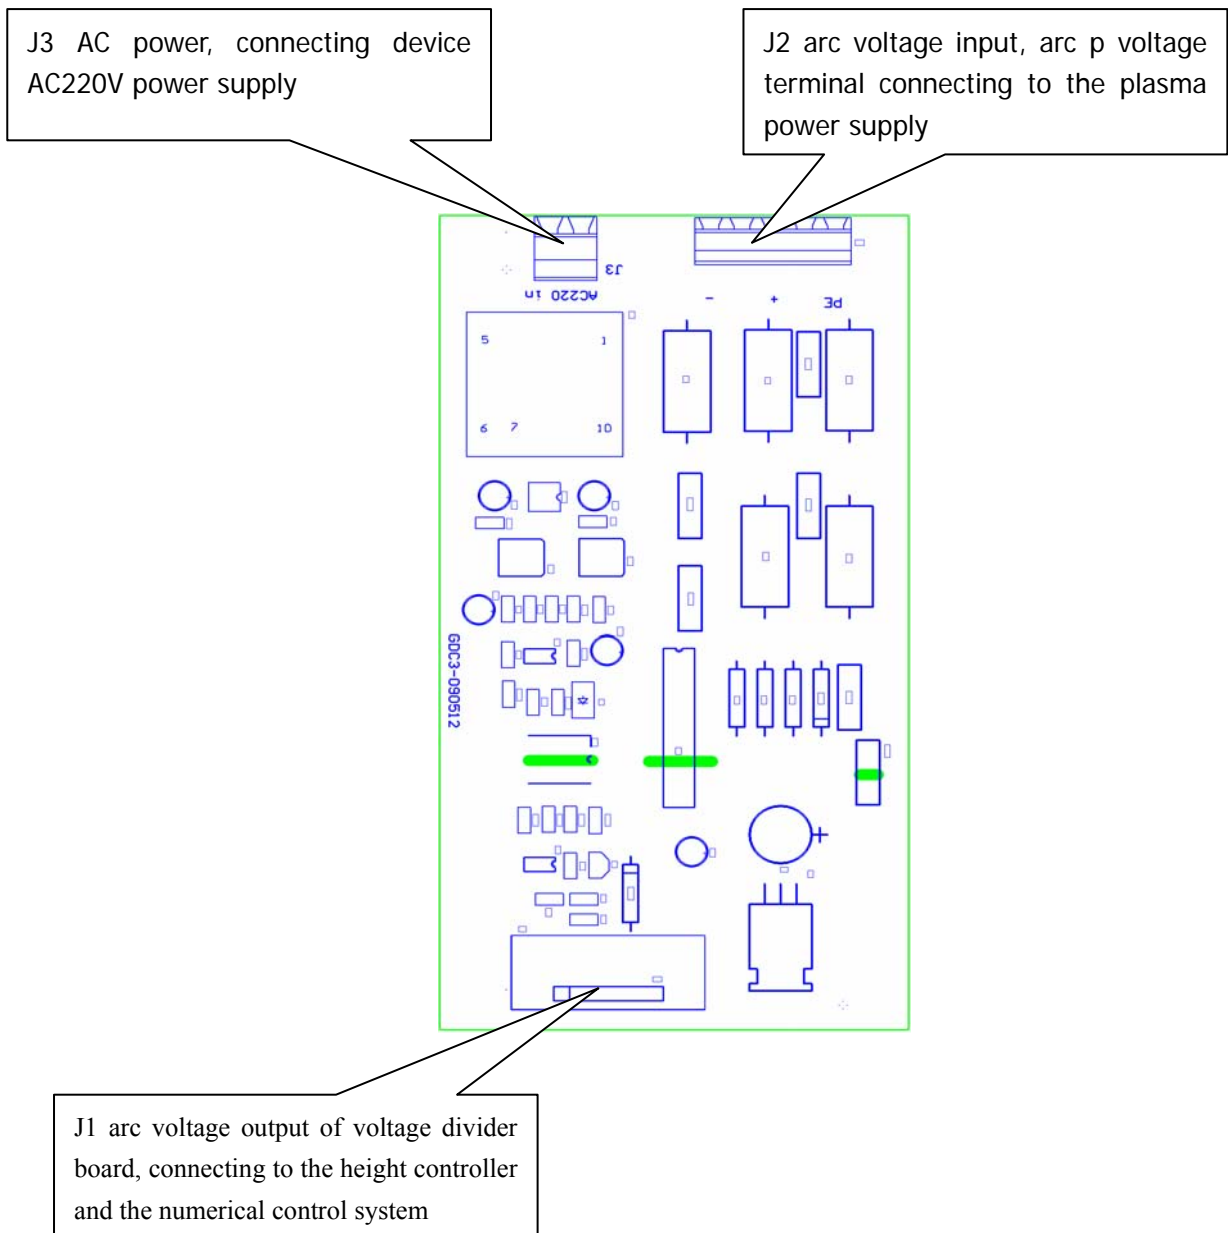

Figure 3-10 The interface description of voltage divider board
- The description of various interfaces of the voltage divider board is shown in Figure 3-10.